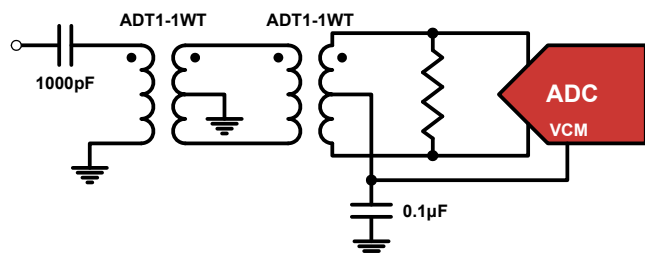

FIGURE 43. TRANSFORMER INPUT FOR GENERAL PURPOSE APPLICATIONS
Best performance is obtained when the analog inputs are driven differentially. The common-mode output voltage, VCM, should be used to properly bias the inputs as shown in Figures 43 through 45. An RF transformer will give the best noise and distortion performance for wideband and/or high intermediate frequency (IF) inputs. Two different transformer input schemes are shown in Figures 43 and 44.